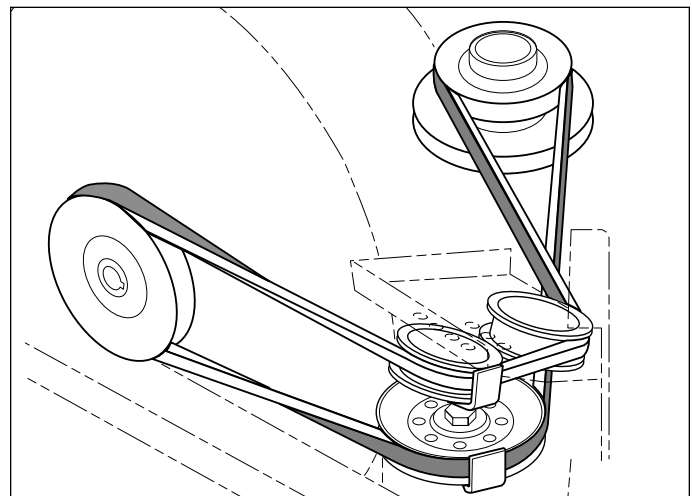

Figure 30. Belt Routing
14. Loosen the idler pulleys and install the belt under the belt keeps. Make sure the groove of the belt is properly seated in the v-pulleys (see Figure 30, the gray section is the flat side of the belt). Reposition the belt keeps so they will not interfere with the drive belt and tighten the idler pulleys